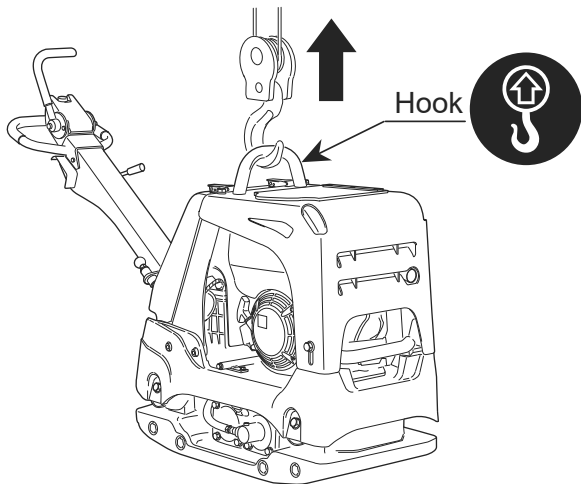

Fig.28
- 3 When lifting, always use a hook. (Fig. 28)